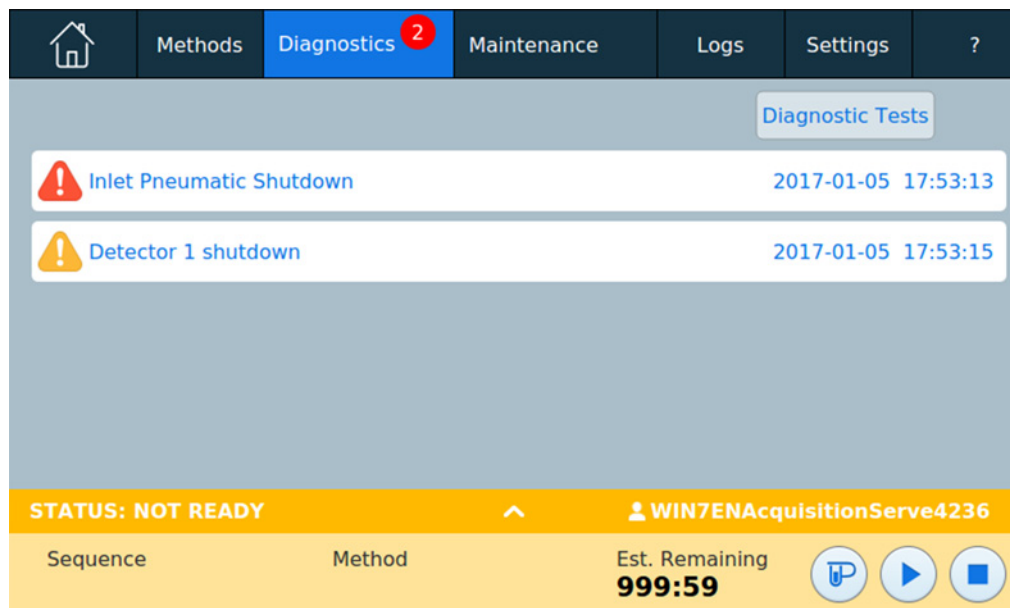

Figure 23 Diagnostics view
Additionally, the view provides a list of all current alerts. See Figure 23.
- 1 On the touch screen, press **Diagnostics**. The Diagnostics view appears. See Figure 23. The view provides a list of all current alerts.